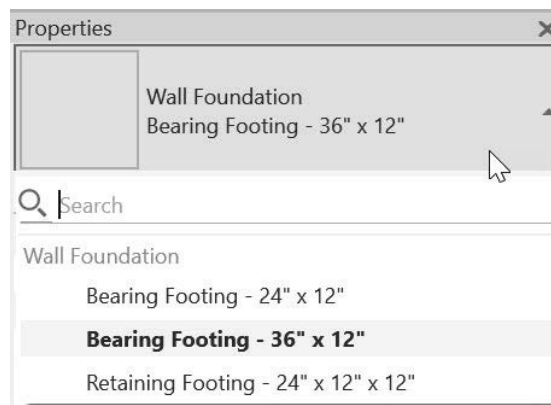

Figure 7–38
3. In the Type Selector, select the **Wall Foundation: Bearing Footing - 36" x 12"**, as shown in Figure 7–38.